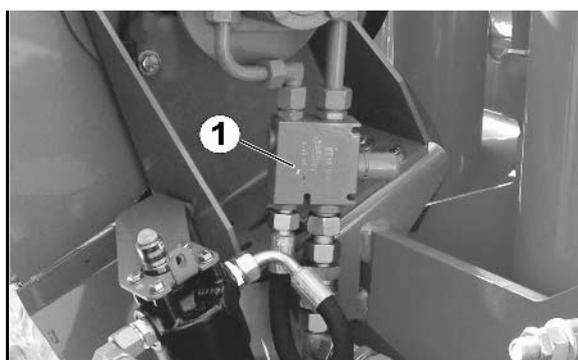

Fig. 101
- Pressure relief valve (Fig. 101/1)